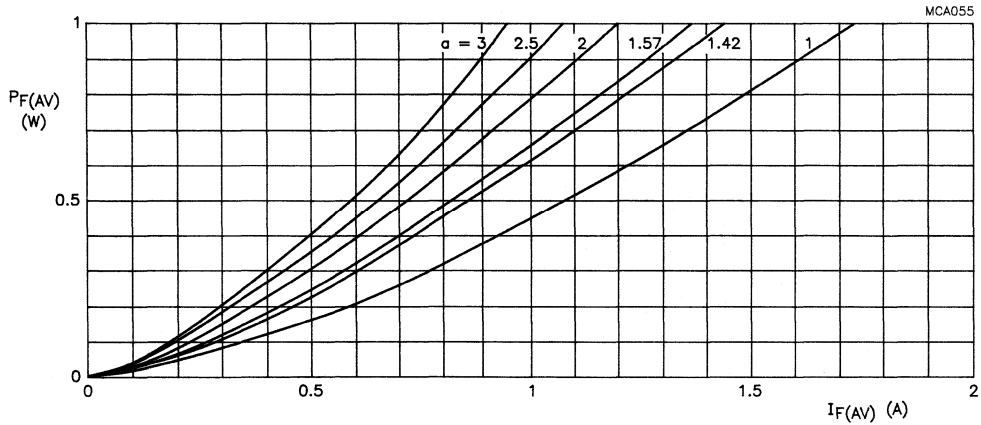

Fig.4 PRLL5817. Maximum values steady state forward power dissipation as a function of the average forward current; $a = I_{F(RMS)}/I_{F(AV)}$.
- Determine the $I_{F(AV)}$ -rating from Figs 4, 5 or 6.